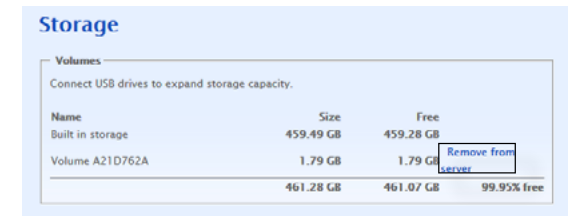

Figure 42
- When the external drive is to be removed from the MS500, select “Remove from server” and then start the remove process by clicking on the button “OK, Remove the volume”. Refer to figures 42 and 43.